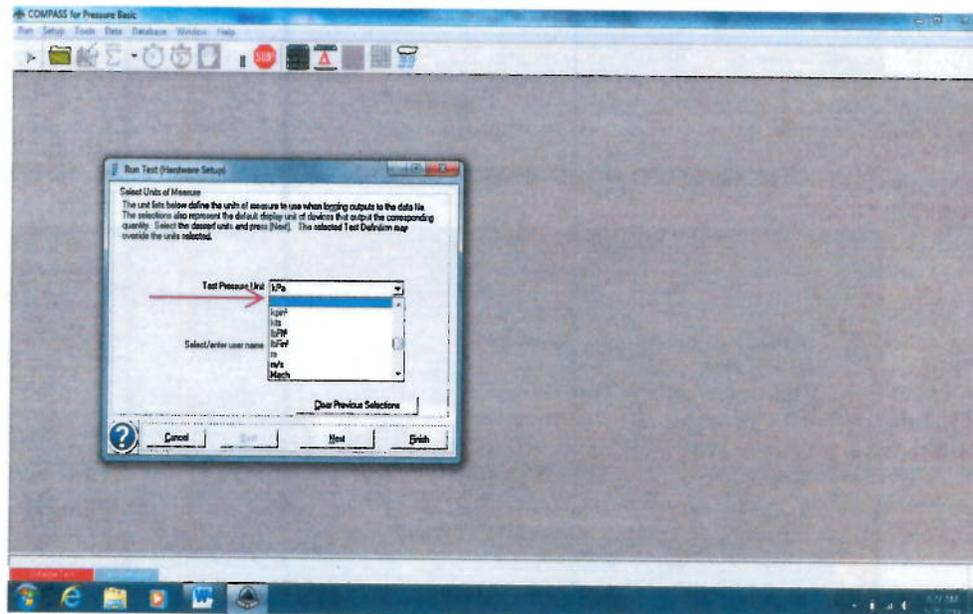

Figure 13
- 11.13 Select the “Test Pressure Unit” (kPa). See Figure 13.